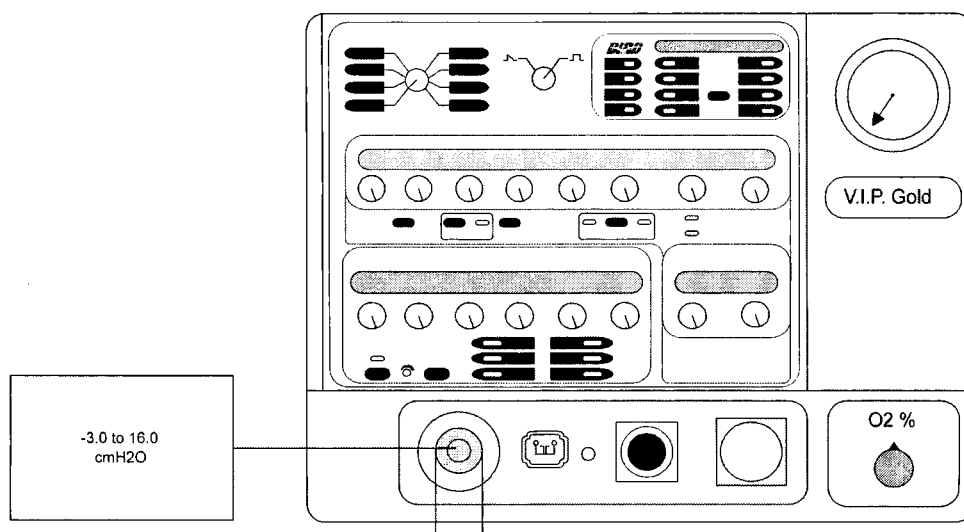

Figure 5.13
- 34.3 Attach master manometer that reads negative pressure from -10 to +30 in increments of -0.51+1.0 or equivalent to the inlet of the Exhalation Valve Body (See Figure 5.13).